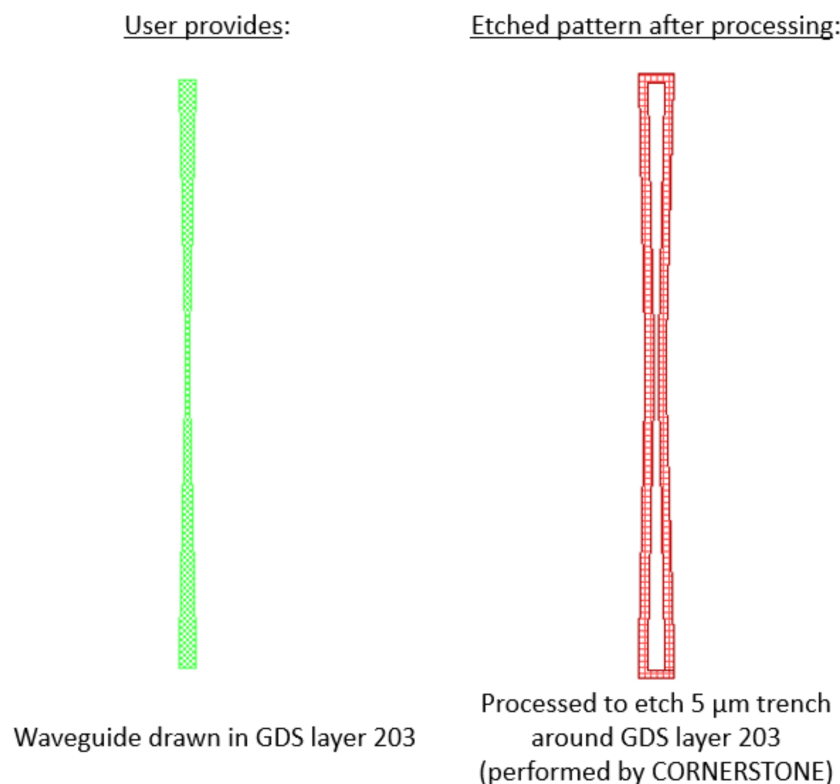

Figure 1: Description of GDS Layer 203 processing.
- Silicon Nitride Etch 1: 200 nm full etch to BOX – GDS Layer 203 (Light field): Drawn objects on this layer will be protected from the silicon nitride etch. Users should draw the waveguides and any other features to remain following the full silicon nitride etching. During fracturing processing, this will be translated into a pattern that defines 5  $\mu\text{m}$ -wide trenches on either side of the waveguides drawn in GDS layer 203 (see Figure 1).